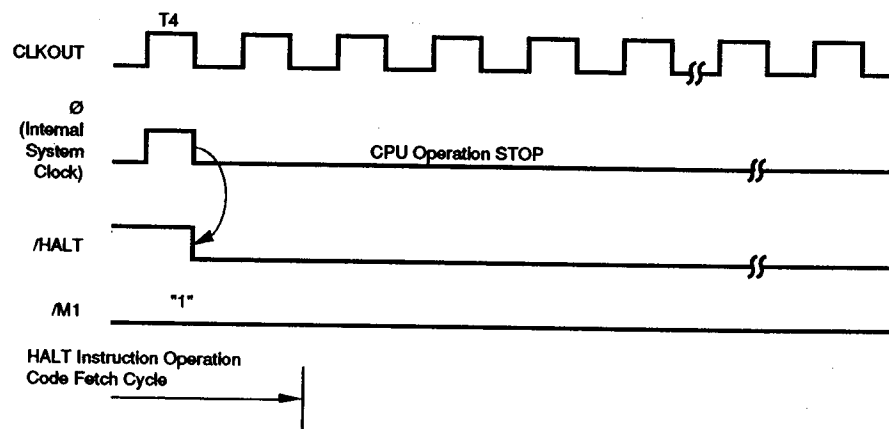

**Figure 32. IDLE1 Mode Timing**
**IDLE1 Mode (HALTM=00).** Shown in Figure 32 is the basic timing when the halt instruction is executed in IDLE1 Mode.